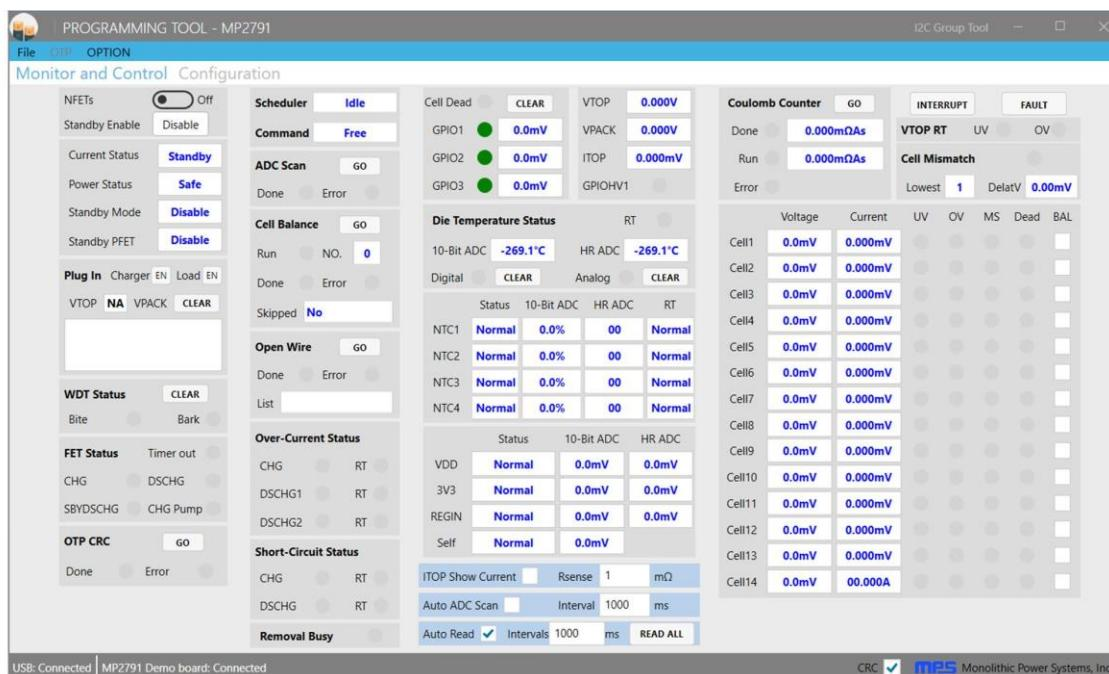

Figure 7: USB and MP2791 Demo Board Statuses Show Successful Connection
- If the connection is successful, the USB and MP2791 demo board statuses are listed as “Connected” at the bottom left of the screen (see Figure 7).